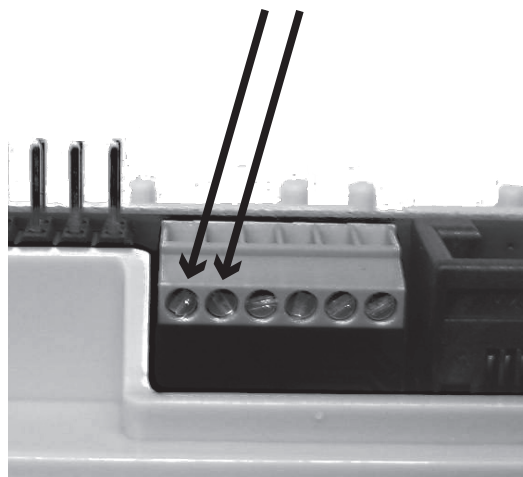

Figure 3-23
2. Run the wire to the Receiving Device. There is a connector at the end of the wires coming from the sensor. For installation onto the PE653, this connector will not be needed. Cut the connector off using a wire cutter, strip the wire ends, and insert both wires into the 1st and 2nd terminals on the sensor connection block and tighten the 1st and 2nd terminal block screws shown in Figure 3-23.